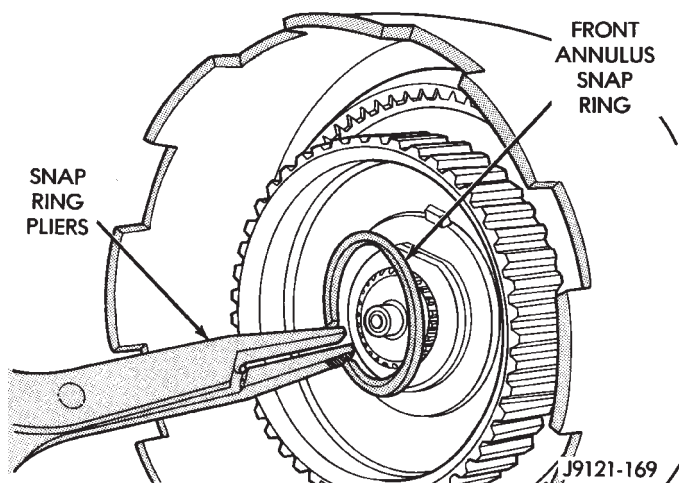

Fig. 83 Installing Front Annulus Snap Ring (42RH)
(21) Install front annulus snap ring (Fig. 83). Use snap ring pliers to avoid distorting ring during installation. Also be sure ring is fully seated.